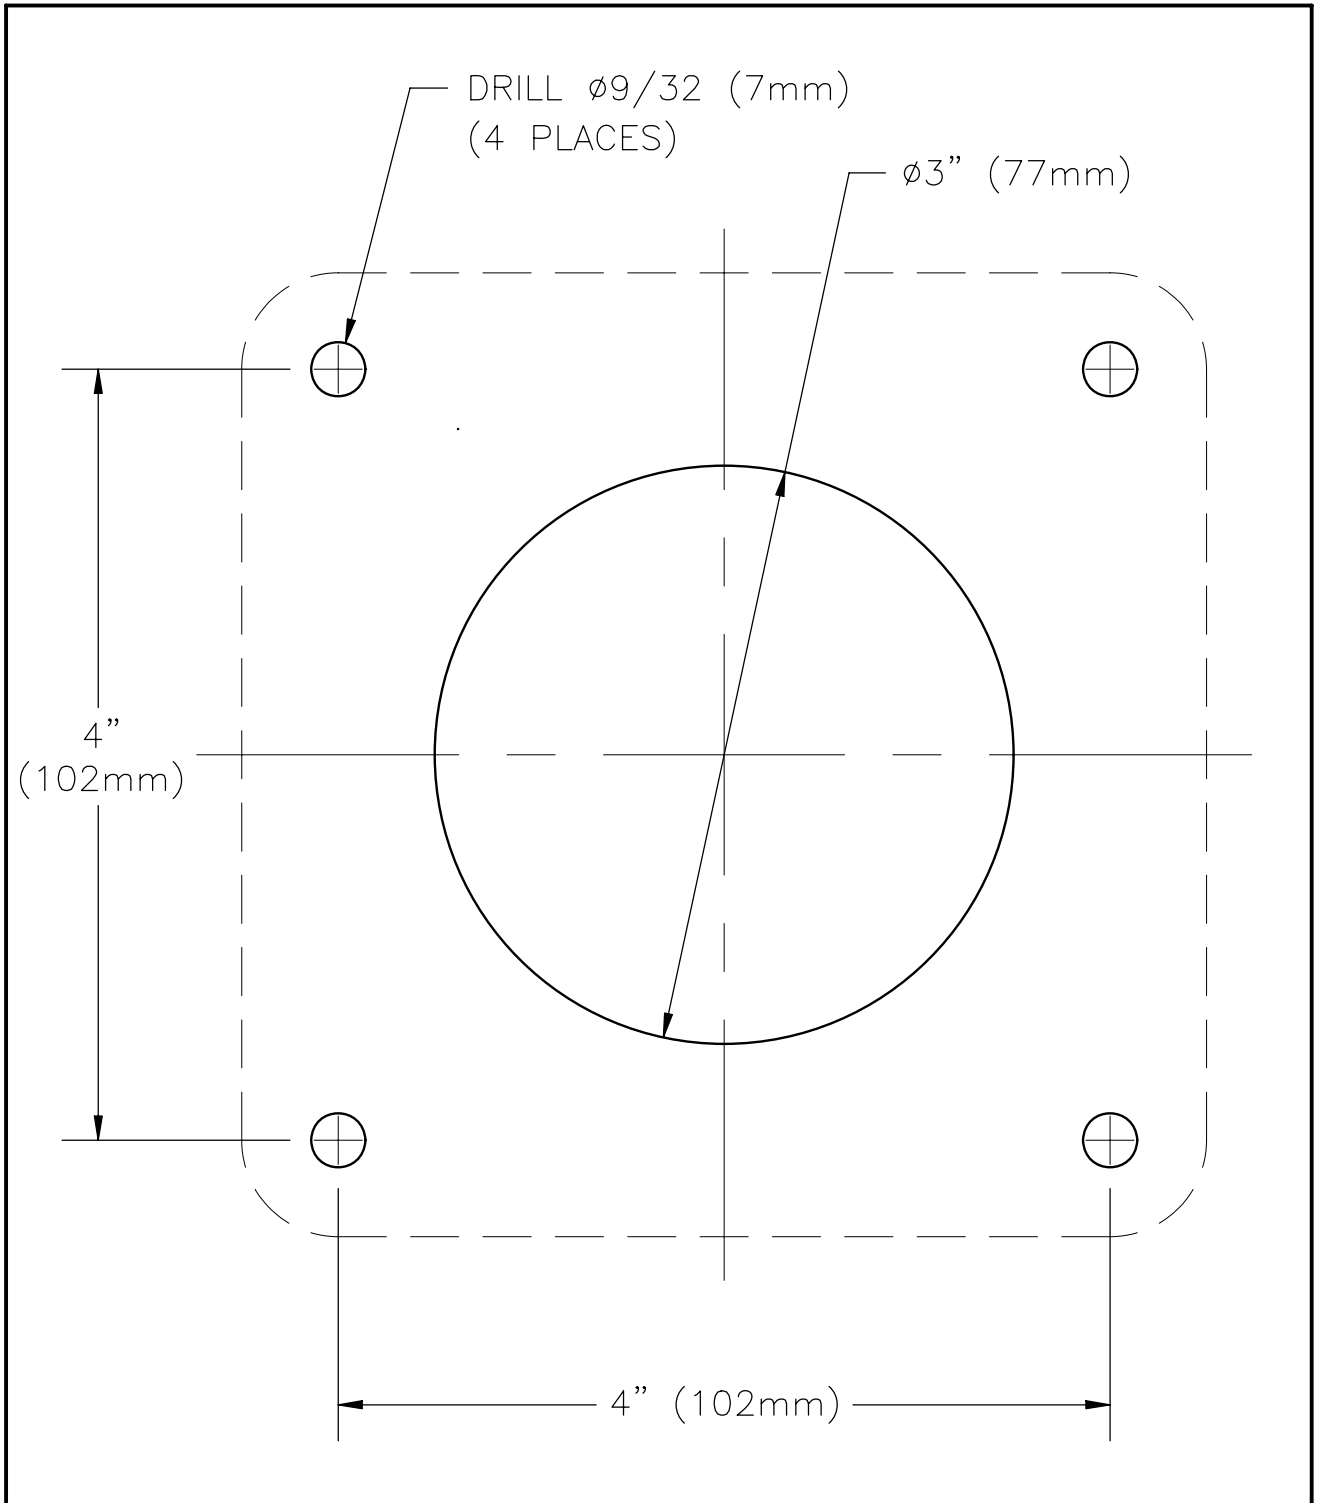

Figure 2 – Mounting Template
- Figure 2 at the end of the manual contains a template to aid in mounting the helm pump.